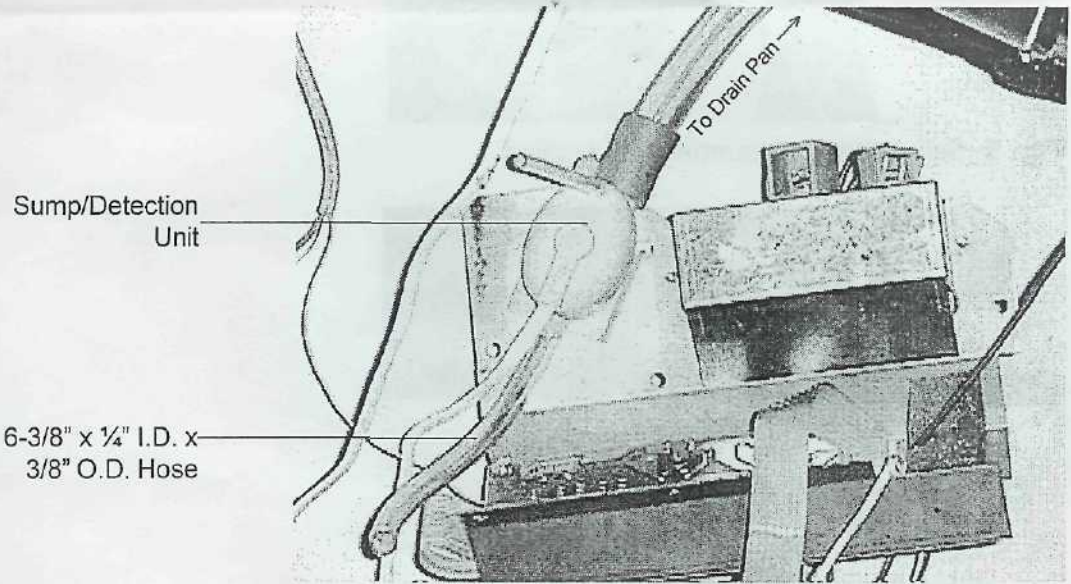

Fig. 8- 1/4" I.D. x 3/8" O.D. Hose Added To Connect Sump/Detection Unit To Pump Unit.
9. Cut 6-3/8" section of 1/4" I.D. x 3/8" O.D. Hose and use it to connect the Sump/Detection Unit to the Pump Unit. [FIGS. 8,11,12]